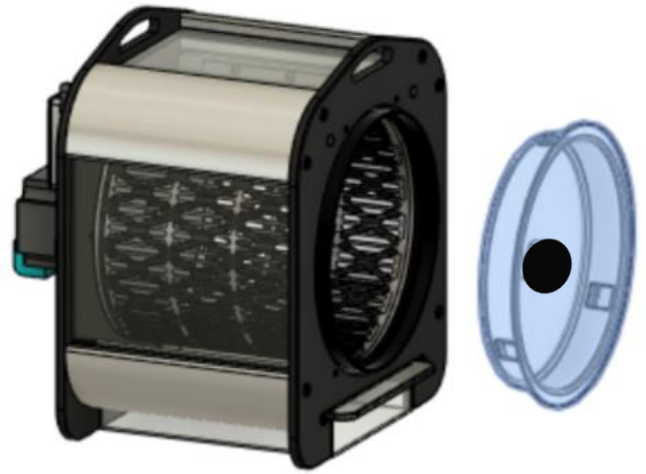

Fig. 7
1. Pull out the tumbler plug (see Fig. 7).